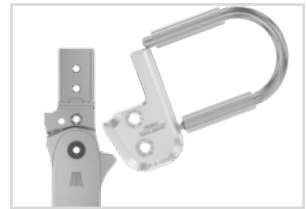

fig. 12
- 7 Place the cover plate from the side on the system stirrup by using the assembly aid for cover plate (fig. 12).